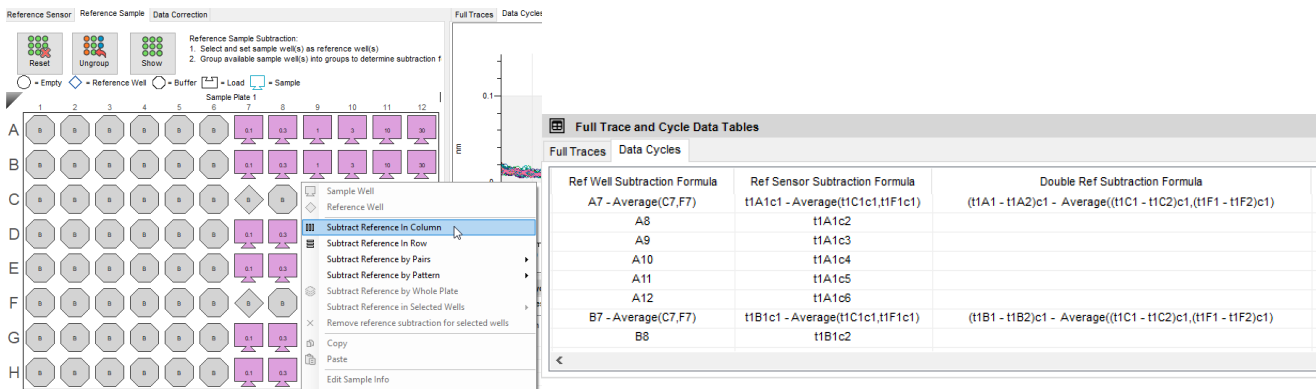

Figure 4-53: Group Reference In Column Plate View and Data Cycles Table Subtraction Formula
- **Subtract Reference in Column** -- Groups reference and sample/load wells in a column. For example, if you have analyte in wells A7, B7, D7, E7, G7, and H7, and your reference wells are C7 and F7, this subtracts the average of C7 and F7 from A7, the average of C7 and F7 from B7, and so on (Figure 4-53).